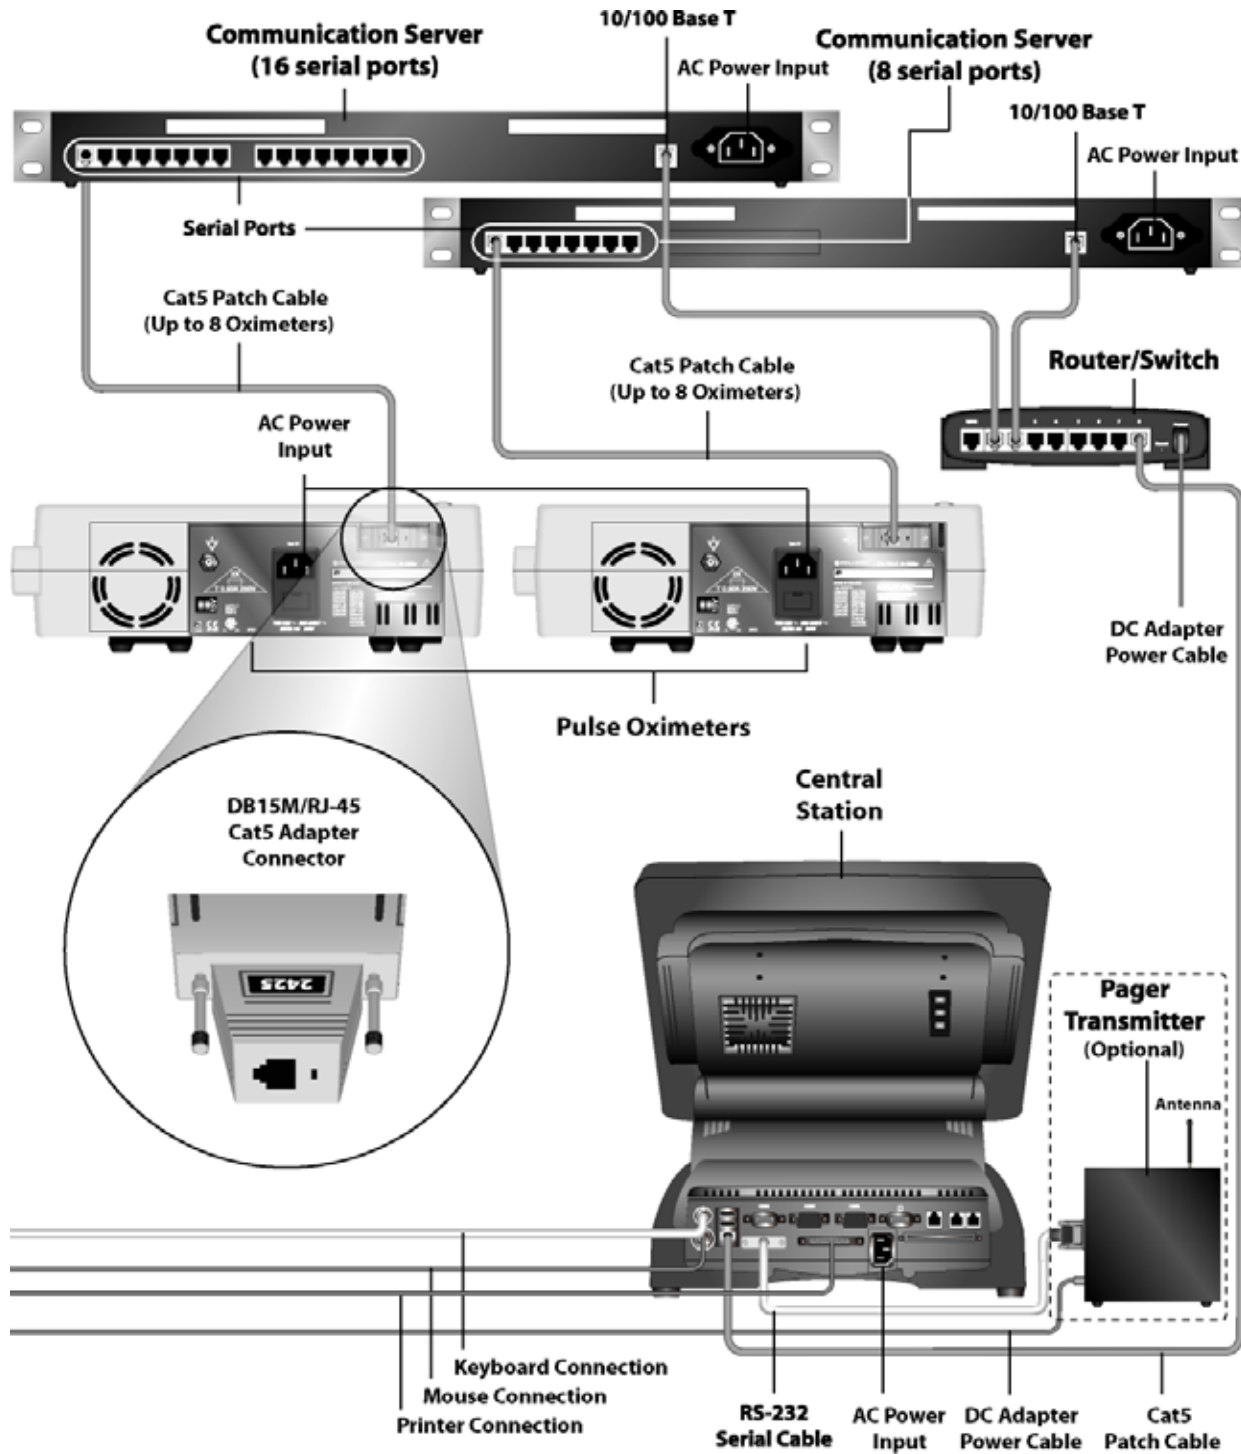
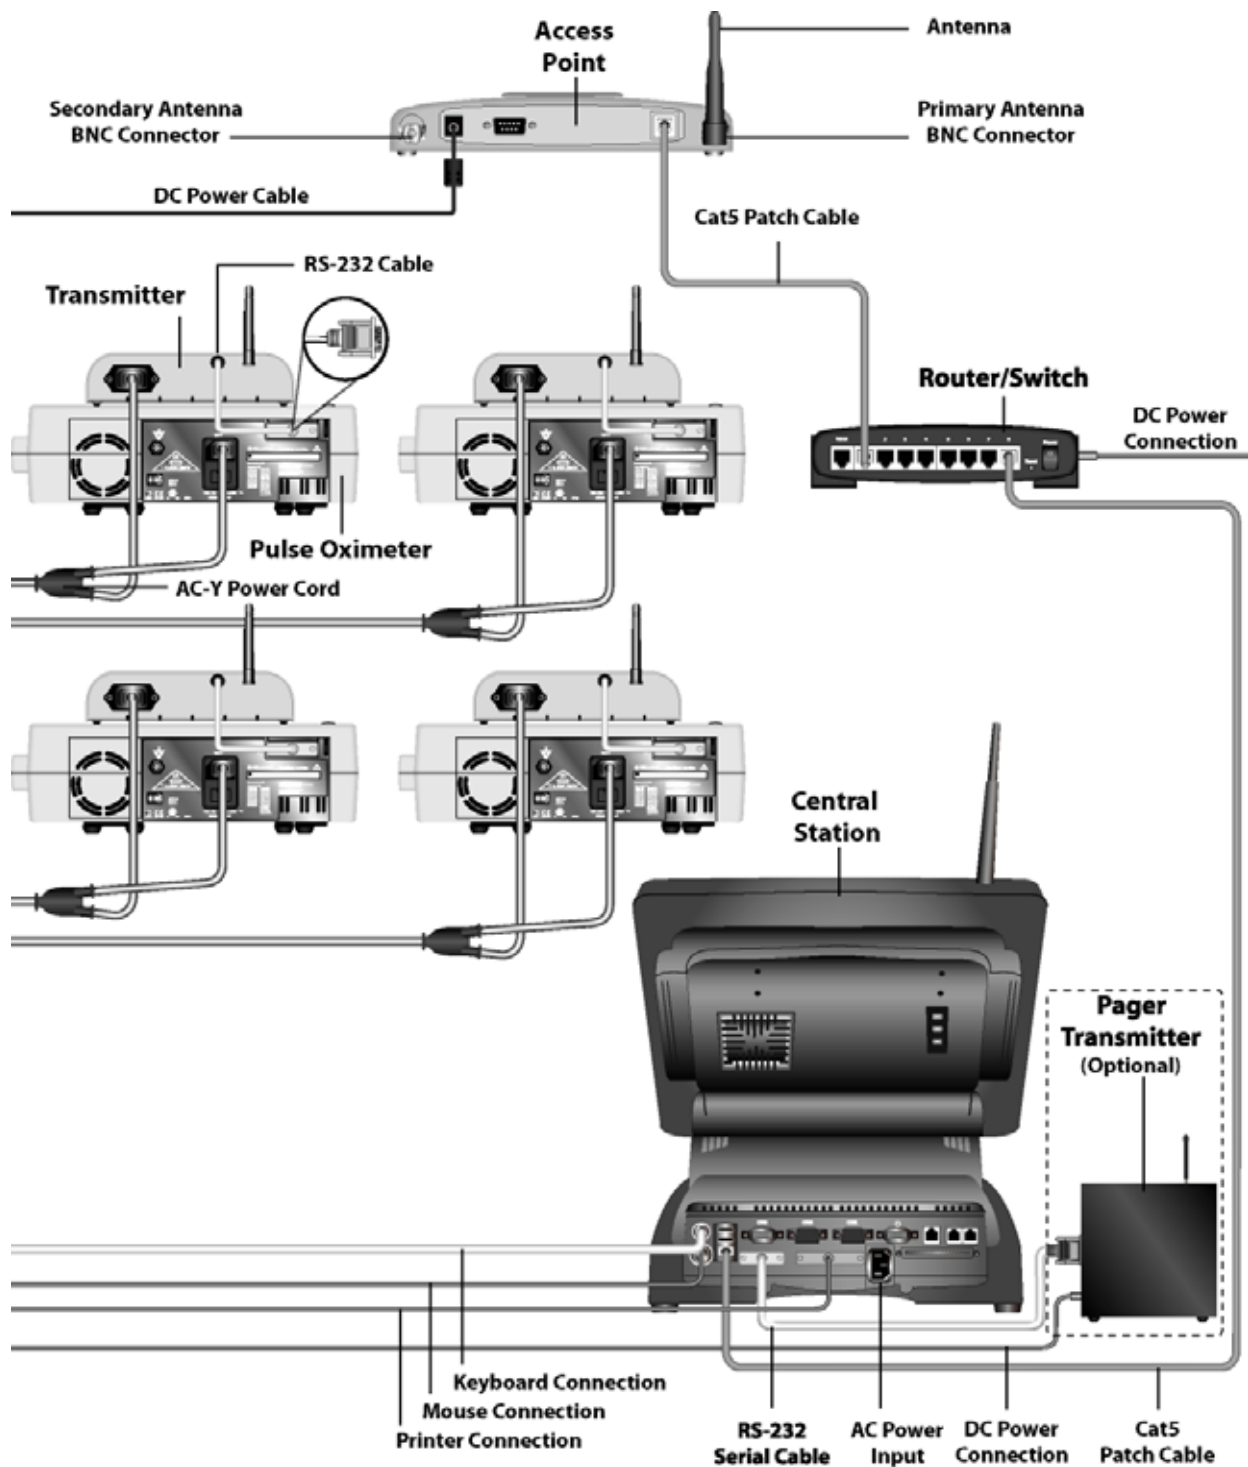

Figure 3: Wired Configuration System Connection
Figure 4: Wireless Configuration System Connection
- 1 Plug a DB15M/RJ-45 Cat5 Adapter connector into the data port of each Oximeter (patient room/bed) as shown in Figure 3.
- 3 Connect a Cat5 Patch cable from the DB15M/RJ-45 connector of each Oximeter to an available serial port on the back of the Communication Server and take note of the room sequence versus the communication serial port number (Figure 3).
- 1 Connect the Cat5 Patch cable from the 10/100 Base-T network port on the Communication Server to any available numbered RJ-45 LAN port on the Router/Switch as shown in Figure 3 (**DO NOT use the port labeled “WAN”**).
- 1 Remove the back panel on the base of the Central Station to gain access to the ports (Figure 3).
- 2 Connect a Cat5 Patch cable from any of the numbered RJ-45 LAN ports on the back of the Router/Switch to the network port in the back of the base of the Central Station (Figure 3).
- 2 Connect an AC power cord to the power input jack on the back of the base of the Central Station and plug the other end into one of the battery backed-up AC power outlets of the UPS (Figure 3)
- 3 Connect the antenna for the Pager Transmitter to the BNC connector on the Pager Transmitter (Figure 3).
- 4 Connect one end of the two-ended RS-232 serial cable to the **COM1** serial port of the Central Station, and connect the other end to the **RS232C Interface** serial port on the left side of the Pager Transmitter (Figure 3).
- 5 Connect the DC power cable into the **12V DC** power port of the Pager Transmitter and plug the AC cord into the AC power outlet (Figure 3).
- 6 Connect the mouse and keyboard to the Central Station (Figure 3).
- 2 Connect the printer cable from the printer to the parallel port connector on the back of the base of the Central Station (Figure 3); if you are using a USB printer, connect the USB cable to the USB port on the back of the Central Station base.
- 1 Place the Transmitter near or on top of the Oximeter (Figure 4).
- 2 Connect the Oximeter to the Transmitter using the transmitter's RS-232 cable (Figure 4).
- 3 Connect one end of the AC Y-cord to each unit (Oximeter and Transmitter) and plug the other end into the AC outlet (Figure 4).
- 1 Install a Cat5 cable from the RJ45 jack on the back of the Access Point to any of the numbered RJ-45 LAN ports on the back of the Router/Switch (Figure 4).
- 2 Connect the Access Point Antenna to the Primary Antenna Connector on the back of the Access Point (Figure 4).
- 3 Connect DC barrel connector end of the DC Adapter Power cable to the round DC jack on the back of the Router/Switch and plug the AC plug end into an AC outlet (Figure 4).
- Plug the DC barrel connector end of the DC Adapter Power cable into the round power jack on the access point and plug the AC power cord into an AC outlet (Figure 4).
- 2 Connect a Cat5 cable from any of the numbered RJ-45 LAN ports on the back of the router/switch to the network port in the back of the base of the Central Station (Figure 4).
- 3 Connect the Central Station's antenna as shown in Figure 4.
- 5 Connect the mouse and keyboard to the Central Station (Figure 4).
- 6 Connect DC barrel connector end of the DC Adapter Power cable to the round DC jack on the back of the Router/Switch and plug the AC plug end into an AC outlet (Figure 4).
- 2 Connect the antenna for the Pager Transmitter to the BNC connector on the Pager Transmitter (Figure 4).
- 3 Connect the Central Station's antenna as shown in Figure 3.
- 4 Connect one end of the two-ended RS-232 serial cable to the **COM1** serial port of the Central Station, and connect the other end to the **RS232C Interface** serial port on the left side of the Pager Transmitter (Figure 4).
- 5 Connect the DC power cable into the **12V DC** power port of the Pager Transmitter and plug the AC cord into the AC power outlet (Figure 4).
- 6 Connect the Central Station to an AC power outlet, and connect the mouse and keyboard to the Central Station (Figure 4).
- 1 Connect the printer cable from the printer to the parallel port connector on the back of the base of the Central Station (Figure 4).
You may also want to connect a mouse instead of using the touchscreen capability. To connect the mouse and the keyboard, you must remove the back panel on the base of the Central Station to get access to the ports (see Figure 3 or Figure 4 in the Installation chapter of this manual).